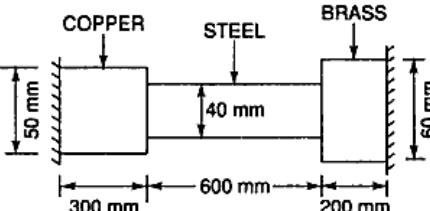

Figure 01
- B)** A composite bar made of copper, steel and brass is rigidly attached to the end supports as shown in figure 01. Determine the stresses in the three portions of the bar when the temperature of the composite system is raised by 70°C when